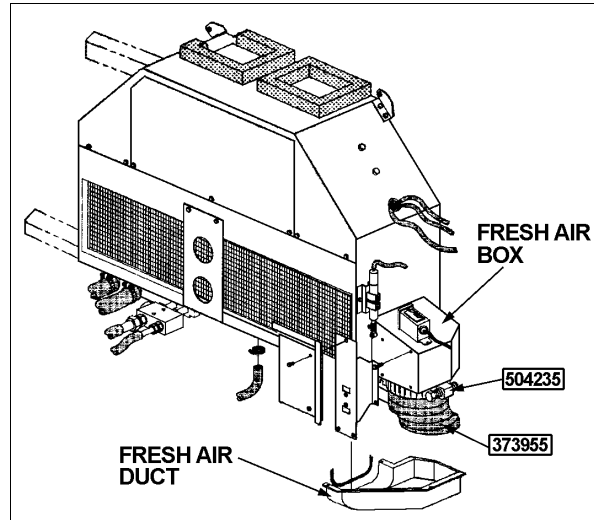

FIGURE 1
3. Remove fresh air duct (refer to figure 1).
5. Install flexible hose (373955) onto the mounting flange (373996) and secure hose using hose clamp (504235) (refer to figure 1).